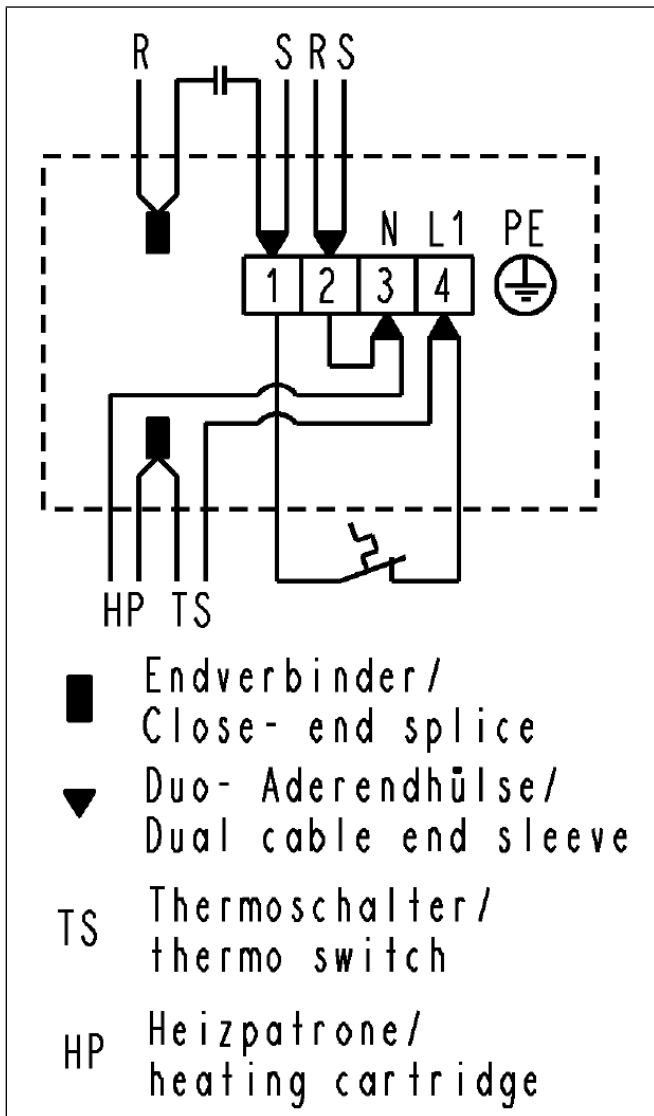

Fig.11: Electrical connection of .11 version
5. Connect the power cable to the L 1 and N connections of the terminal blocks (see Fig. 11).